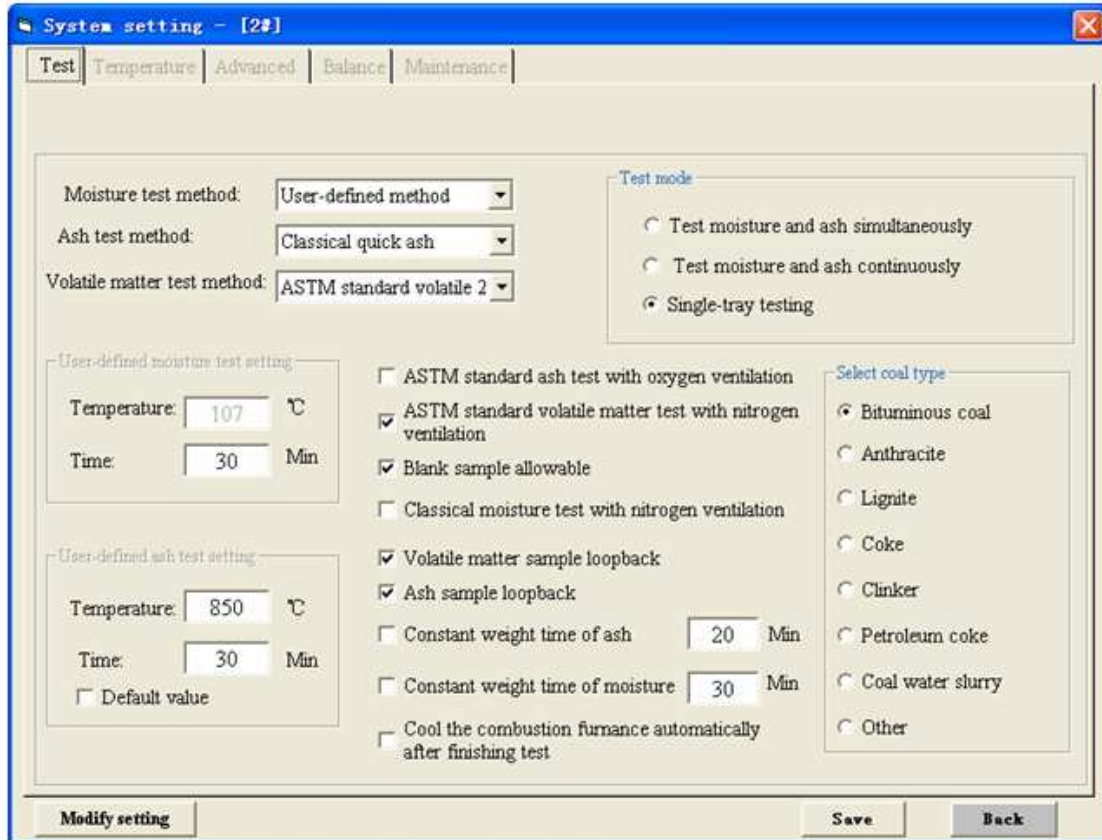

Fig.4-2-1
1. Test settings: Click “System Setting” in the main menu to enter into the Window as shown in Fig.4-2-1